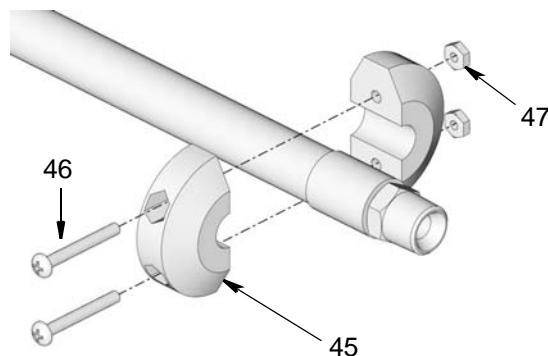

FIG. 55
To remove ball stop: remove nuts (47), screws (46) and ball stop (45) from end of hose (FIG. 55).